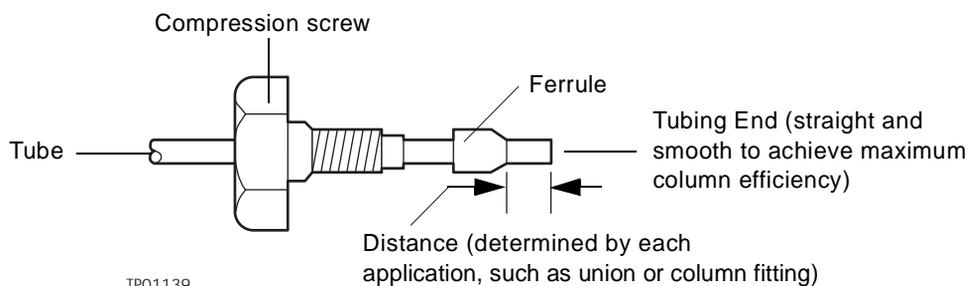

Figure 2-4 Ferrule and Compression Screw Assembly
1. Slide the compression screw over the tubing end, followed by the ferrule (Figure 2-4).
2. Mount the ferrule with its taper end facing the end of the tubing (Figure 2-4).